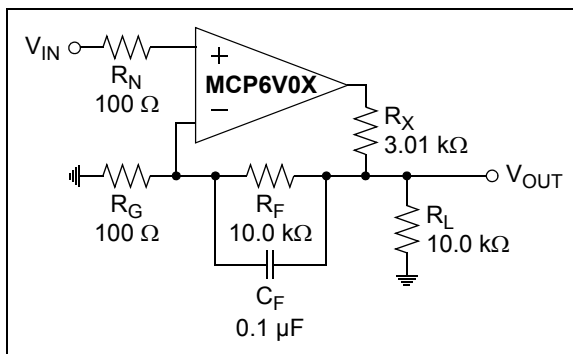

FIGURE 4-9: One Solution To Output Load Issue.
- Add a 3 k Ω resistor at the op amp's output that is not in the signal path; see Figure 4-9